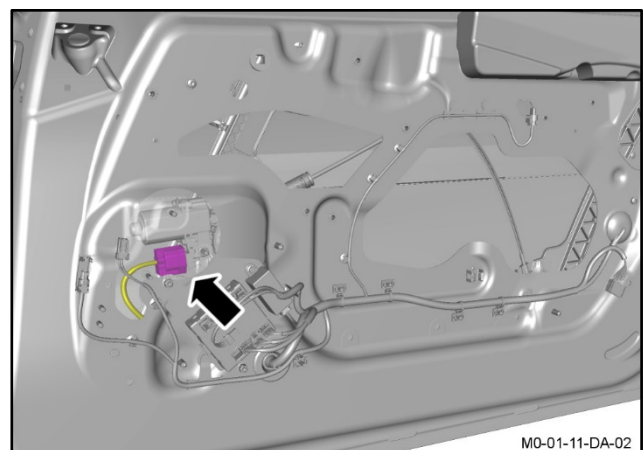

Figure 15
25. Disconnect the electrical connector for the regulator motor (refer to Figure 15).